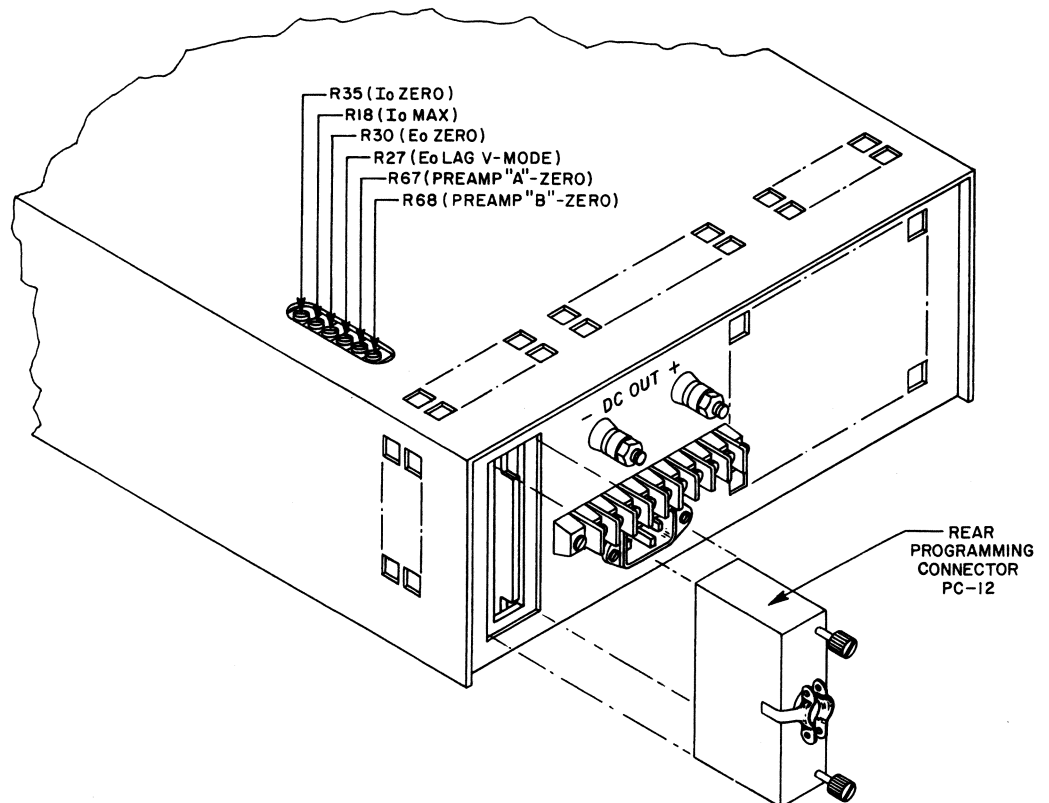

FIG. 2-1 LOCATION OF INTERNAL CONTROLS, ATE 3/4 RACK GROUP.
- c) INTERNAL CONTROLS: Refer to FIG. 2-1 and Table 2-1.
- 2-19 LAG NETWORK ADJUSTMENT. The ATE power supply operating in the "fast" mode, is dynamically stabilized by means of an internal lag network (E_O LAG, R27, see FIG. 2-1 for location). This control should be adjusted, for each application, by monitoring the load with an oscilloscope and turning the LAG control for best output response and maximum dynamic stability under all operating conditions.